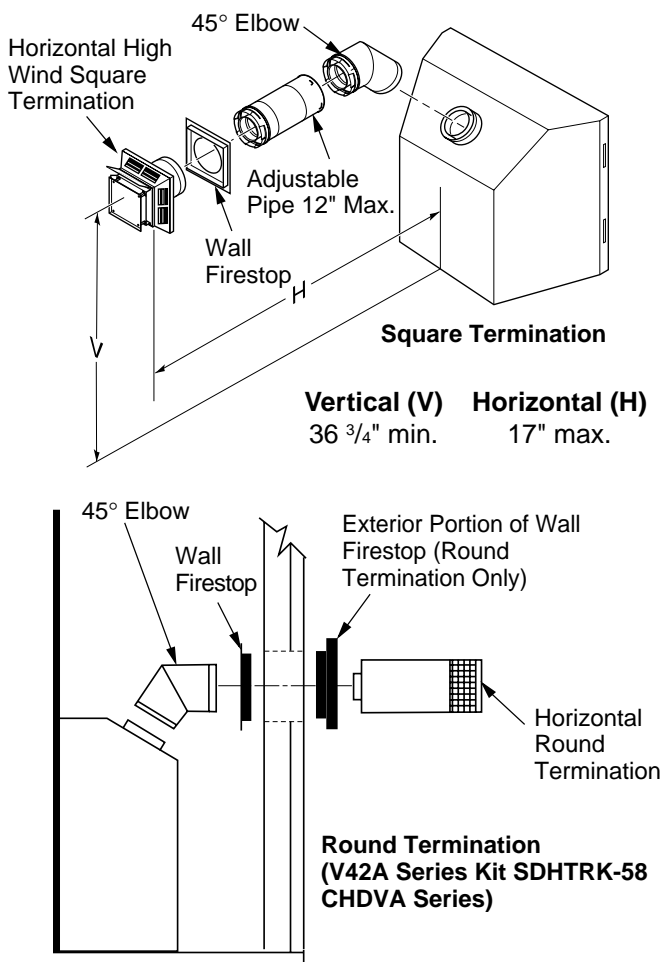

Figure 14 - Horizontal Termination Configuration for Square or Round Terminations
IMPORTANT: Horizontal square terminations require only inner portion of wall firestop. Horizontal installations using round termination require exterior portion of wall firestop available only in vent kit 01491 for V and VV Series or SDHTRK-58 for CHDV Series (see Figure 14, page 10).
1. Set the fireplace in its desired location and determine the route your horizontal venting will take. Do not secure the fireplace until all venting has been installed. Some installations require sliding the fireplace in and out of position to make final venting connections. Figures 14 through 18 on pages 10 through 12 show different configurations for venting with horizontal termination that will help you decide which application best suits your installation. Check to see if wall studs or roof rafters are in the path of your desired venting route. If they are, you may want to adjust the location of the fireplace.
Figures 14 through 18 show different configurations and alternatives for venting with horizontal termination. Each figure includes a chart with critical minimum and maximum dimensions which **MUST** be met. **IMPORTANT:** Remember that a horizontal run of venting must have a 1/4\"